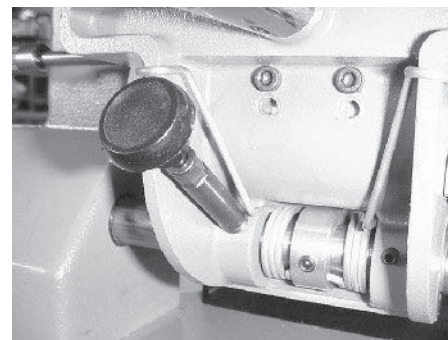

FIGURE 1
2. Install the push-pull knob into the yoke with a 5/16" wrench (see figure 1).